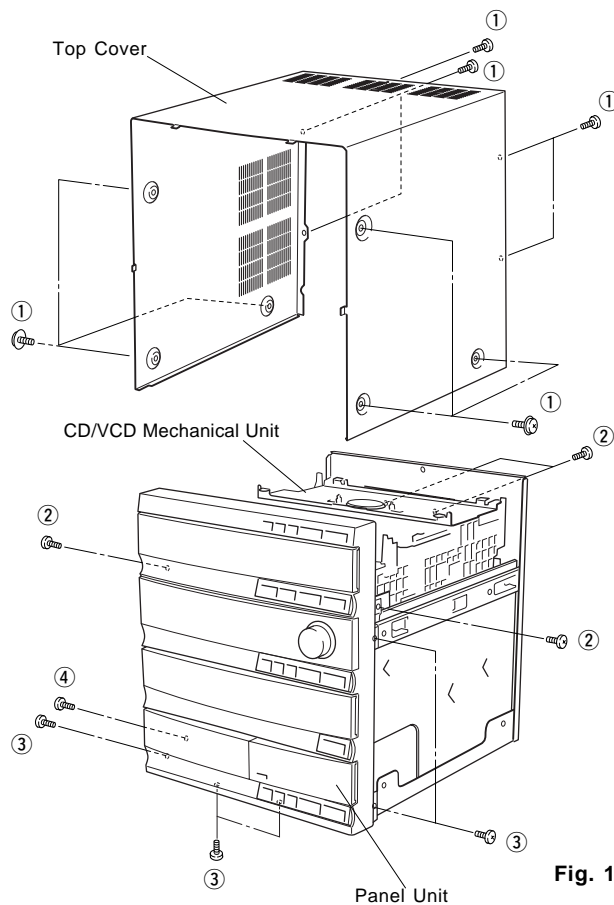

Fig. 1
Remove 11 screws (①) in Fig. 1.
- Remove 4 screws (②) and then remove the CD Mechanical Unit in Fig. 1.
- Remove 6 screws (③ and ④) and then remove the Panel Unit in Fig. 1.